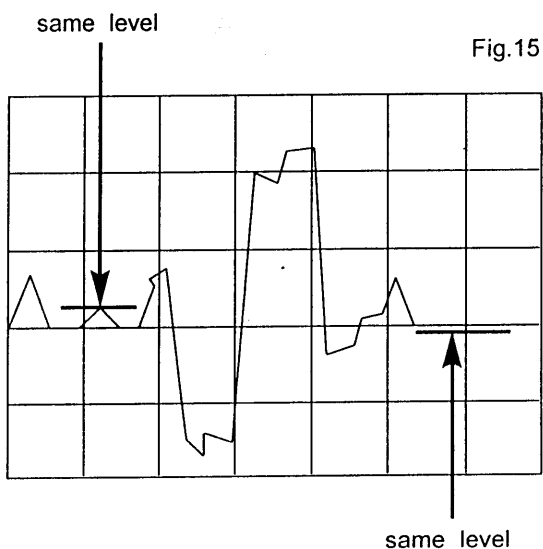

Fig.15
3. Turn T303 to obtain the Fig.15.